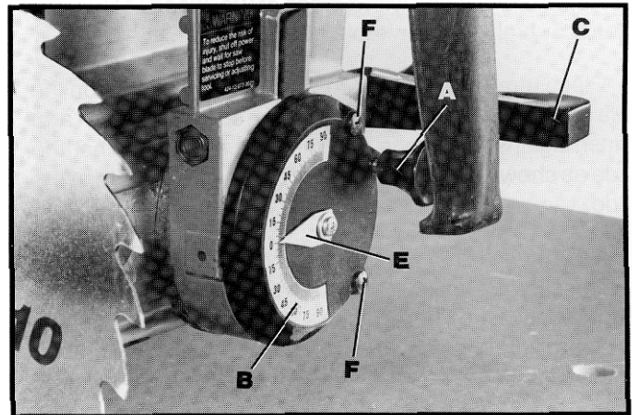

Fig. 48
6. If an adjustment is necessary, make certain bevel clamp lever (C) Fig. 48, is tight. Remove screw, flat washer and pointer (E) Fig. 48. Remove two screws (F) Fig. 48, and bevel scale plate (B), with index knob (A).